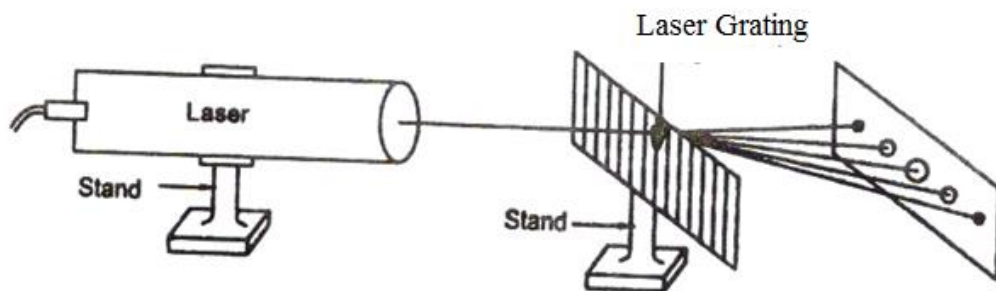

Figure 3.1 Laser Grating Experiment
Diode laser is kept horizontally and switched on (care should be taken). The grating is held normal to the laser beam. This is done by adjusting the grating in such a way that the reflected laser beam coincides with the beam coming out of the laser. As shown in the Fig.3.1 After adjusting for normal incidence, the laser light is exposed to the grating and it is diffracted by it. On the other side of the grating on the screen, the diffracted laser spots are seen. The distances of different orders from the center spot (x) are measured. The distance between the grating and screen (D) is measured. Using the formula 'θ' is calculated. The wavelength of the laser light source is calculated using the given formula.